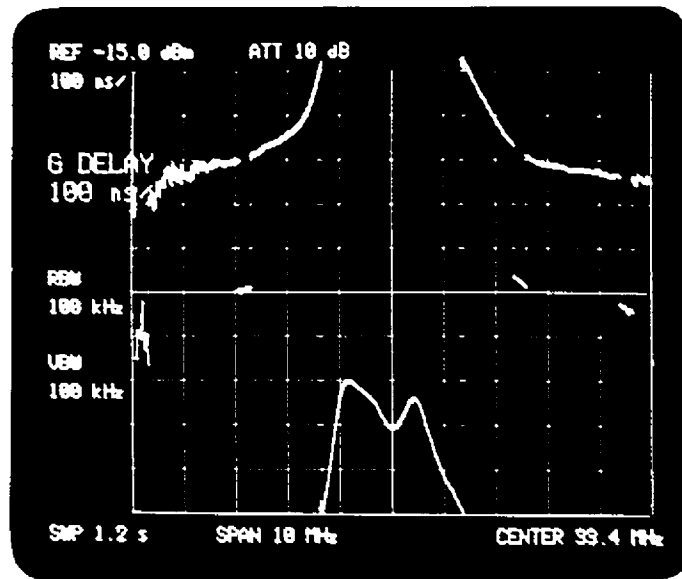

Fig. 7-7 Group delay measurement
- ⑨ The group delay of the filter can be observed by pressing the GROUP DELAY key (Figure 7-7).